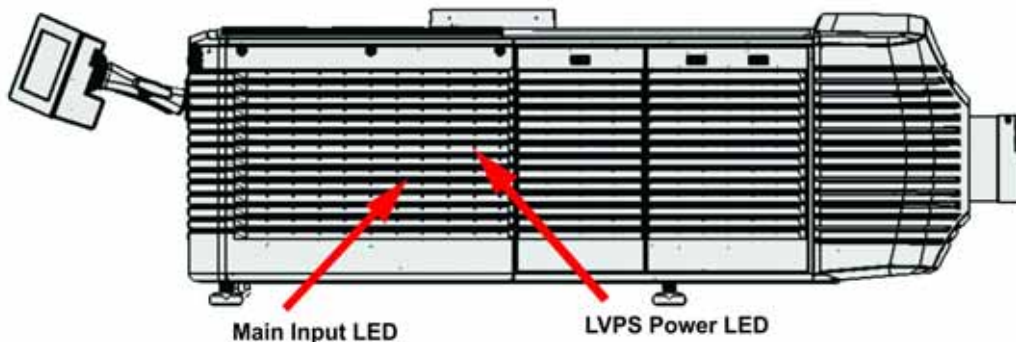

Figure 7-2 View Power Status LEDs
- Verify power by looking through the rear, right side grill. One LED should be present in the upper right. This indicates the LVPS has power. Another LED should be seen in the lower left indicating Main input. (Figure 7-2)